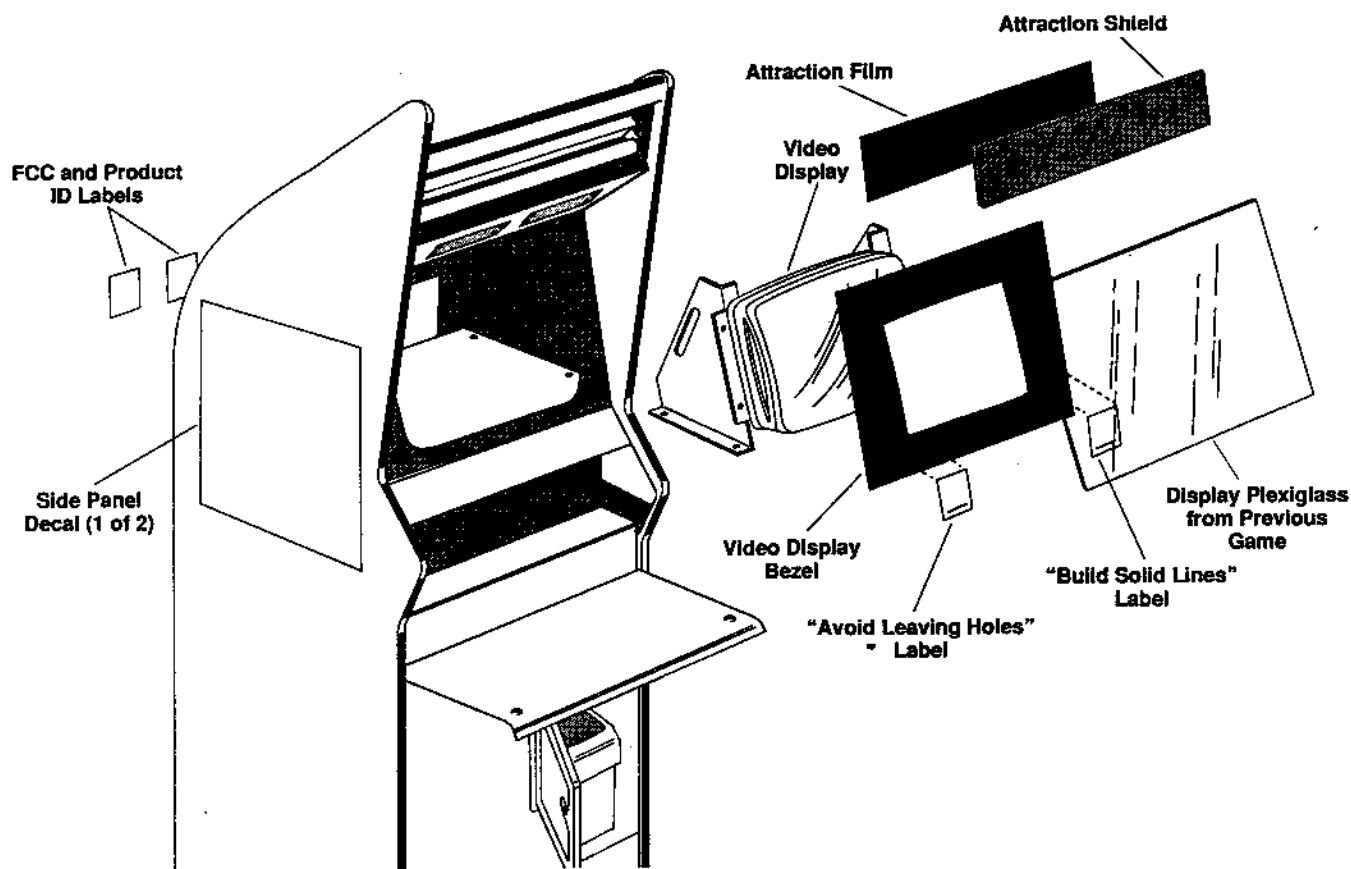

Figure 1-1 Installing the Tetris Kit
1. Find the display bezel (part no. 046502-01). Measure the size of the existing display bezel or the required size to fit and cut the cardboard display bezel to size. (See Figure 1-1.)
2. Place the bezel labels (part nos. 046511-01 and 046511-02) in the lower left and lower right corners, respectively, of the display bezel. (See Figure 1-1.)
- Find the attraction shield (part no. 046504-01) and the attraction film (part no. 046503-01). Measure the size of the existing shield or required size to fit and trim both parts to size. Install them on the cabinet as shown in Figure 1-1.